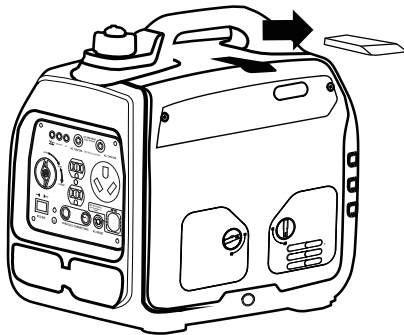

Figure 19: Slide off spark plug cover
3. Slide the spark plug access cover off the housing (see Figure 19).